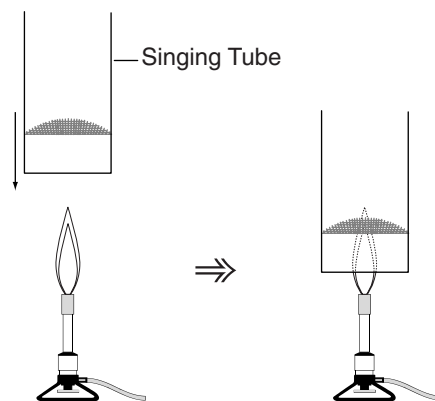

Figure 4.
- Wearing heat-resistant gloves or oven mitts, hold the metal tube at one end and position the other end of the metal tube vertically over the Bunsen burner flame to directly heat the wire disks inside the tube. See Figure 4.